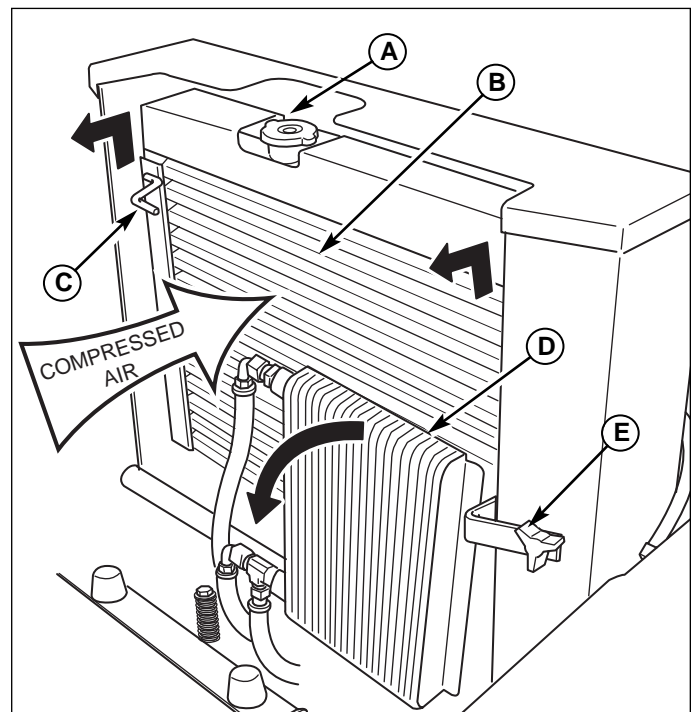

Figure 1. Radiator Cleaning Procedure
3. Remove the wing bolt (E) from the oil cooler mount and pivot the oil cooler (D) forward to access the radiator screen.
4. Lift the screen keeper handles (C) up and pull forward. Remove the radiator screen and flush with water or blow clean with air.
6. Using 50-60 psi compressed air, blow through the radiator core in the direction shown in Figure 1. Once the core is clean, turn off the engine. Refer to the operator's manual for proper engine stopping procedure.